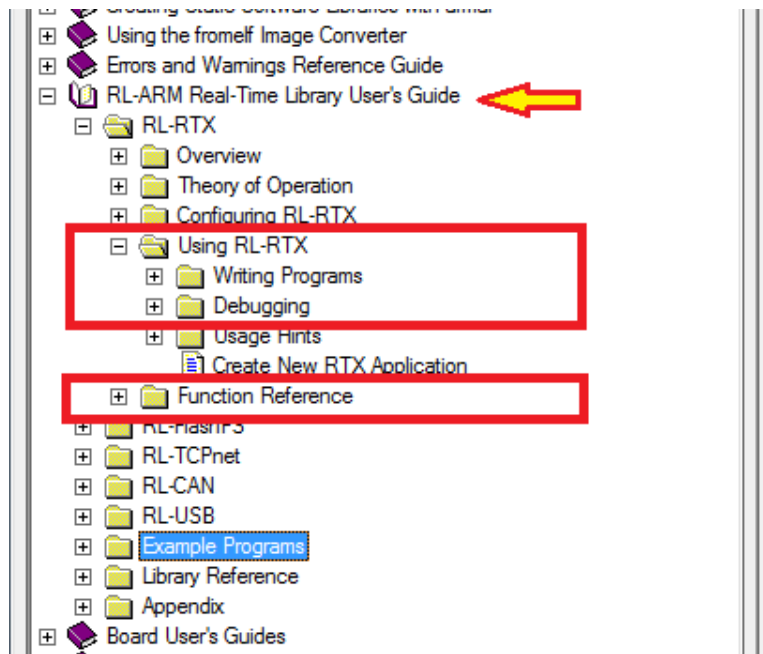

Figure 1.12: Keil IDE: RL-RTX Manual
- Start a PuTTY terminal and make sure you have the correct configuration as shown in Figure 1.12\(a\) and Figure 1.12\(b\).
The manual of the RL-RTX is accessible through the Keil MDK-ARM Help (see Figure 1.12). The highlighted sections are highly recommended to read through.